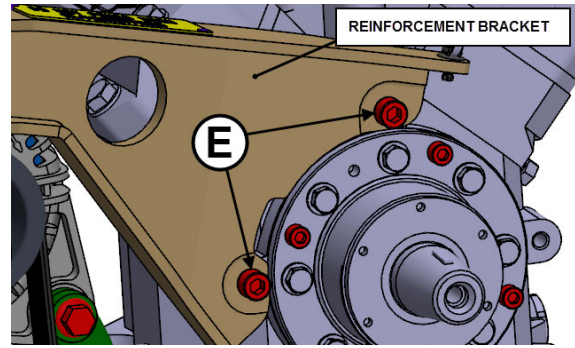

FIGURE 10
13. Unscrew and remove two socket cap screws **E** (FIGURE 10).